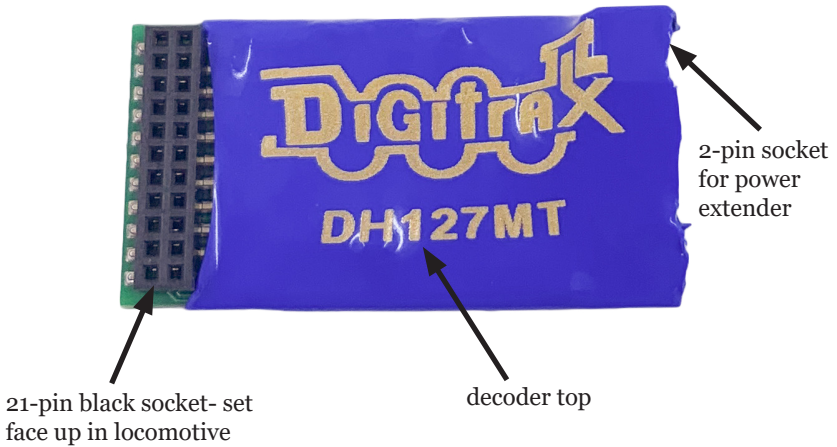

Figure 1: DH127MT Decoder showing 21-pin Track/Motor, Function connector.
Installation Instructions: Visit www.digitrax.com for the latest information and technical updates. Refer to Figure 1 for the decoder layout.
3. Plug the DH127MT decoder with the lamp board pins entering from the **underside of the decoder shown in figure 1**. There is an index pin that forces the correct left/right socket orientation. Correct install will have decoder black socket visible on topside. Do not plug in upside down, or non-warranty damage may occur,